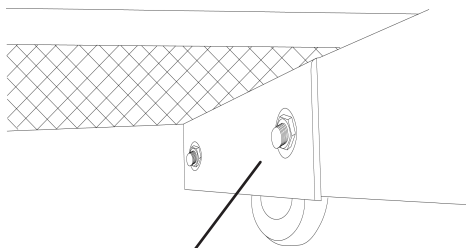

Figure 5-1
2. Slide tongue assembly into slot located under the front section of the trailer. See Figure 5-1.